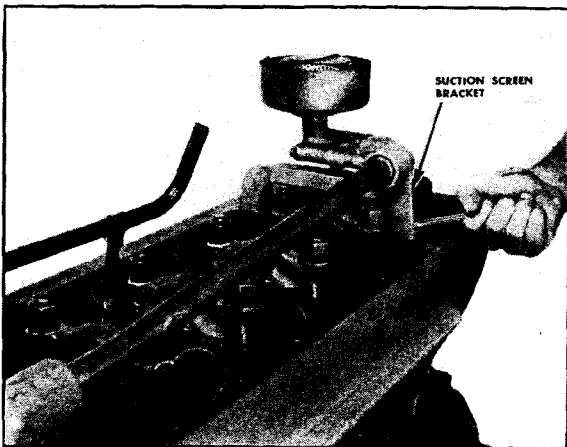

Fig. 12-70. Tightening suction screen bracket
2. Tighten the suction screen bracket to the cylinder block. Fig. 12-70.